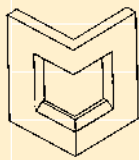

Fig. 14 Corner
- Work as corner units (Fig. 14)